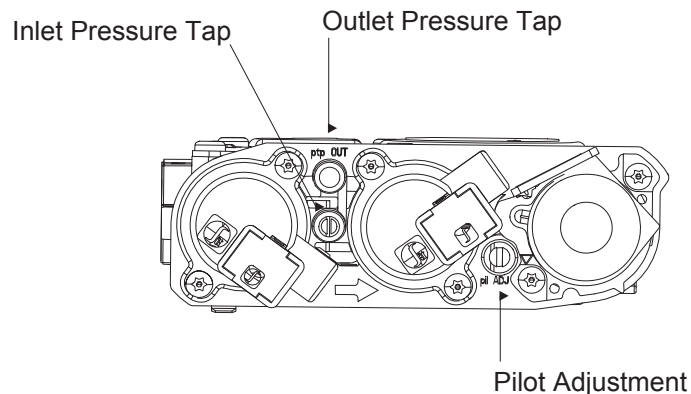

Figure 34 - Gas Pressure Check at Gas Valve
4. To check gas pressures at valve, turn captured screw counter clockwise 2 or 3 turns and then place tubing to pressure gauge over test point. Turn unit to high. *See Figure 34.* After taking pressure reading, be sure and turn captured screw clockwise firmly to reseal. Do not over torque. Check test points for gas leaks.